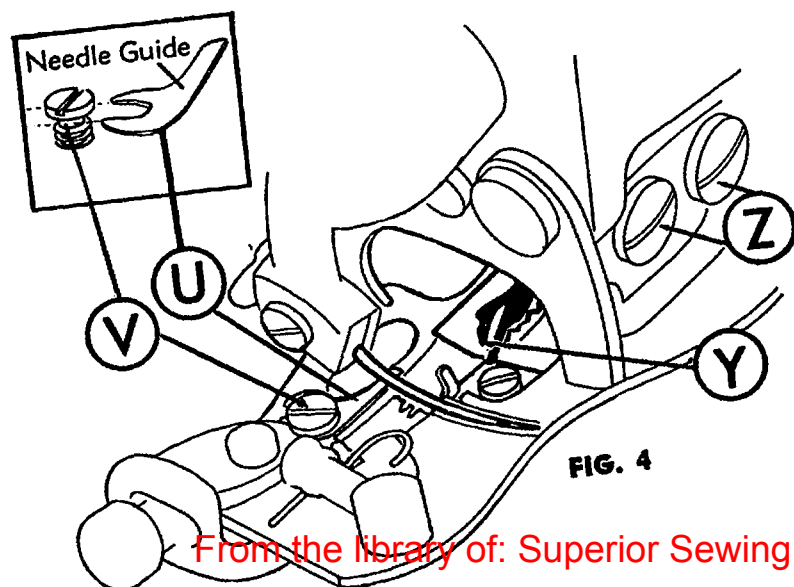

FIG. 4
10. (FIG. 4) When Needle Guide (U) (part #R-1238) becomes grooved or broken, remove and put in a new one. NOTE: When replacing Needle Guide, slide "U" of Needle Guide into undercut neck of screw (V). Hold together and screw on Presser Foot. Just before tightening firmly, push Needle Guide securely towards screw, hold in position and tighten Needle Guide Screw (V).
(FIG. 4) BE SURE LOOPER CLEARS FEEDER AT POINT (Y).